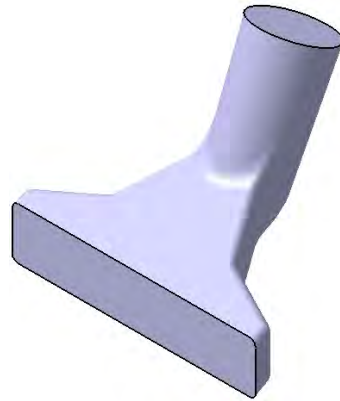

Figure 5-84 Model after creating second fillet
5. Set the value of the **Radius** spinner to **3** and choose the **OK** button from the **Edge Fillet Definition** dialog box. Cancel this dialog box when it is again displayed. The model, after applying fillet to the second set of edges, is shown in Figure 5-84.